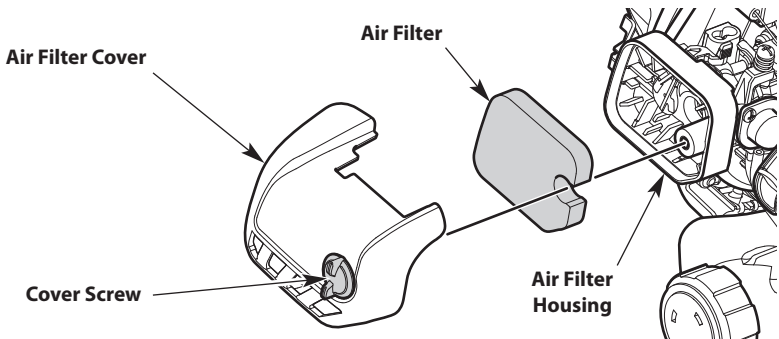

Fig. 17
1. Open the air filter cover by unscrewing the cover screw (Fig. 17).
2. Remove the air filter from the air filter housing (Fig. 17).
6. Reinstall the air filter in the air filter housing (Fig. 17).